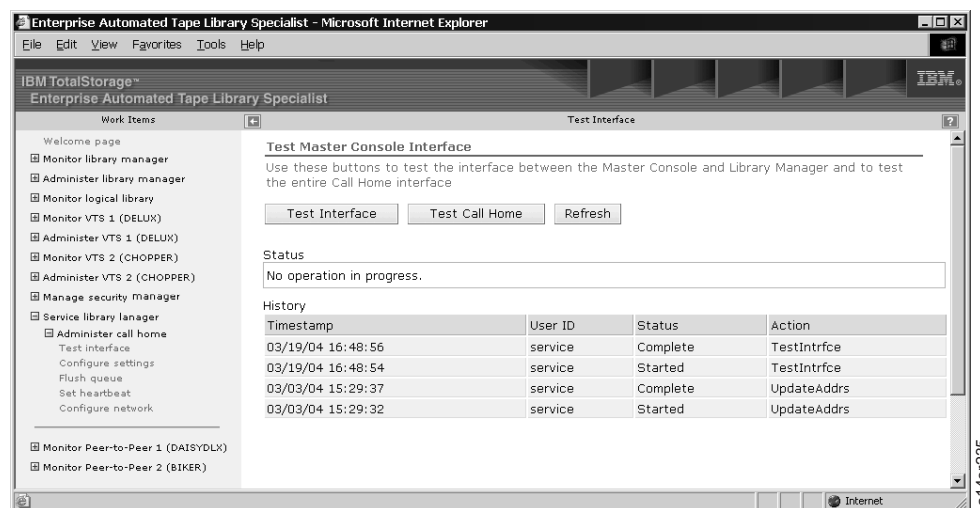

Figure 2-44. 3494 ATL Web Specialist - Test Interface
1. From the "Administer call home" list on the Web Specialist screen (Figure 2-43 on page 2-30), click **Test interface** to see the options shown in Figure 2-44. If you are prompted for a username and password, use the default values of **service** for the username and **service** for the password. These values can be changed by the 3494 ATL system administrator.
From this screen (Figure 2-44), you can test the (network) interface between the LM and the System Console (from the perspective of the LM).